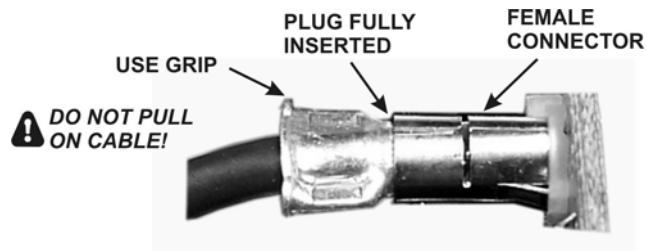

Figure 6. TMP Cable Connectors.
3. Unplug the coaxial cables leading to the K144XV module and set the module aside. The coaxial cables have friction-fit TMP connectors that simply pull out of the sockets (see Figure 6 on pg 9). Pull on the metal connector grips. Do not pull on the coaxial cable. If needed use your needle-nose pliers to grasp the metal grips on the connectors.
- Temporarily remove the coaxial cables at J2 and (if present) J1 on the KREF3 board. Handle the connectors by the grip (see Figure 6). Do not pull on the black coaxial cable.
Plug the TMP connector on the end of the coaxial cable you installed earlier into the connector on the KREF3 board that extends through the front panel shield. Handle the connector by the grip using your needle-nose pliers. Be sure the connector is fully seated (see Figure 6 on pg 6).